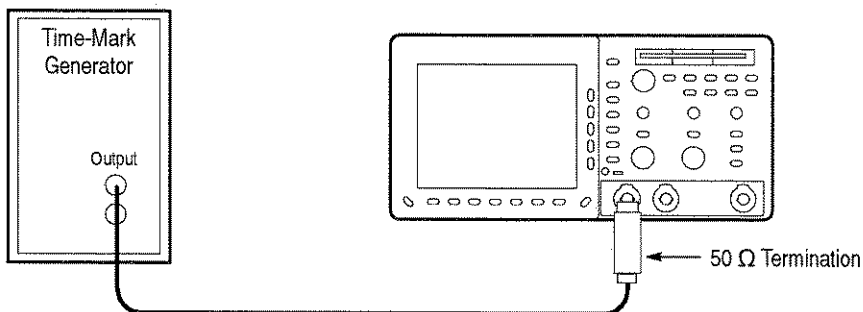

Figure B-5: Hookup for sample rate check
1. Connect, through a 50 Ω precision coaxial cable and a 50 Ω termination, the time-mark output of a time-marker generator to **CH 1**, as shown in Figure B-5. Set the output of the generator for 10 ms markers.